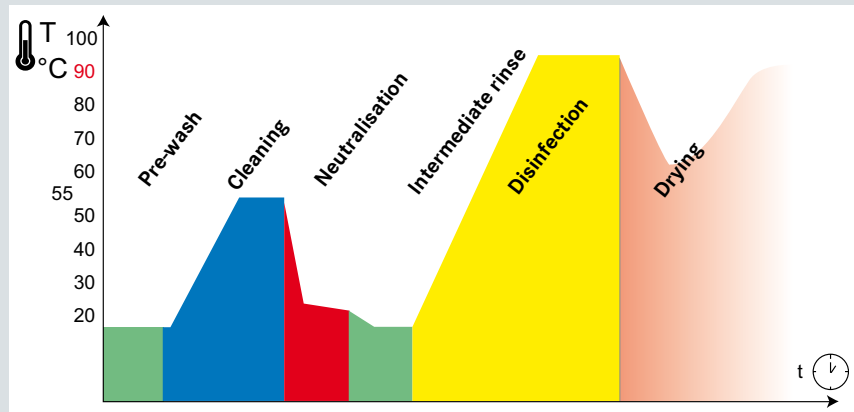

Fig.1 Diagram of the program sequence of Vario TD-programme
\* Should the Miele washer disinfector be unavailable, please observe the parameters of the Vario TD-program sequence (see fig. 1)
2. Start the Vario TD-programme (for diagram of program sequence see fig. 1) including thermal disinfection.